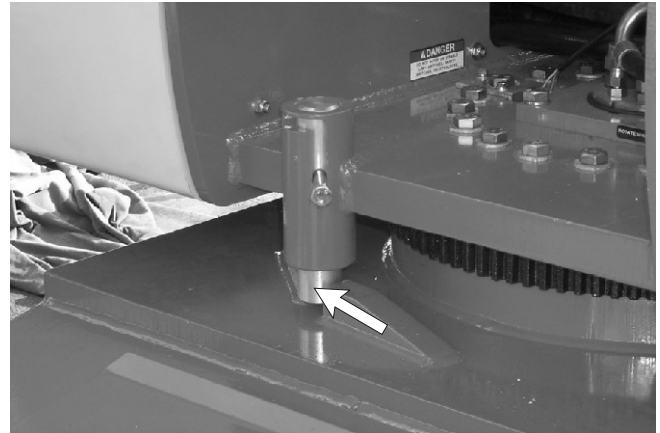

Figure 9.3—Slew Lock Pin Set
10. Engage the slew lock (see Figure 9.3).
5. Attach the winch to the tie-down lugs (refer to Figure 9.3) on the front of the chassis.
2. Inspect the lifting lugs (refer to Figure 9.3) to make sure they are free of cracks, rust, and are in good condition. There are two lugs on the rear of the chassis and two on the front. Have any damage repaired by a qualified service technician before attempting to hoist the machine.